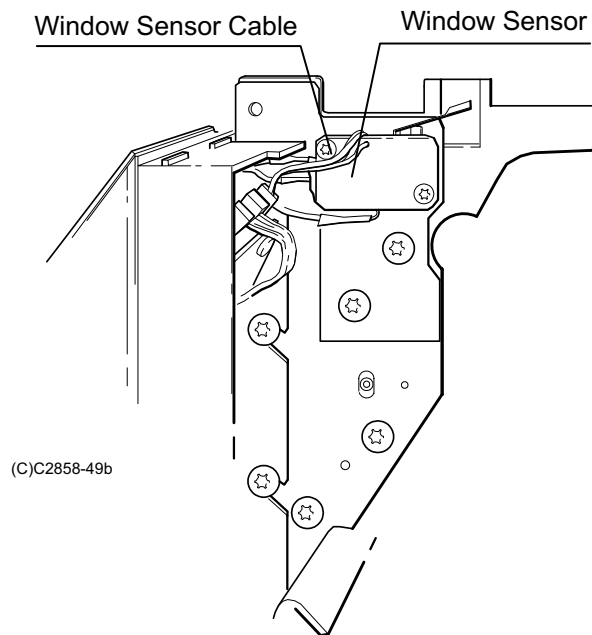

Figure 6-13.
3. Using a TORX T-8 screwdriver, remove the two screws that attach the window sensor to the right sideplate and lift the sensor clear of the plotter. See Figure 6-13. Don't cross-thread or over-tighten the screws when installing.